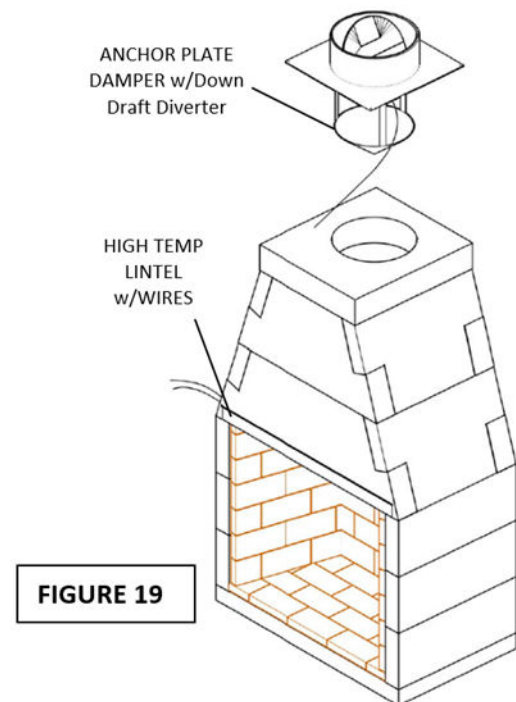

FIGURE 19
- Install downdraft diverter at the top plate with four (4) masonry anchors (**Figure 19**)
- The high temp lintel fits horizontally up toward the bottom of the smoke dome. The adjoining short leg of the high temp lintel fits up against the bottom of the smoke dome component. (**Figure 19**)